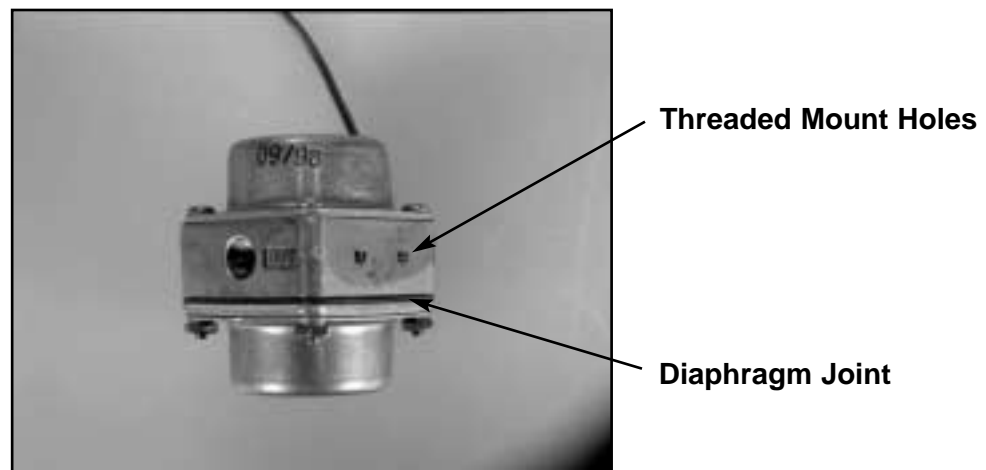

Figure 2
Recent field reports have indicated the possibility of fuel seepage at either the diaphragm joint or threaded mount holes as shown in Figure 2. Within the next 10 hours of operation, inspect the pressure regulator shut off valve for signs of fuel leakage as follows.
- b. Using mineral spirits or JET-A as the test fluid, pressurize the inlet port of the regulator valve to 50 psi for 1 minute minimum with the solenoid energized. Carefully inspect the valve body for signs of fuel leakage giving careful attention to the diaphragm joint and the threaded mount holes as shown in Figure 2. **CAUTION - prior to test, exercise care to wipe valve body and fittings free of any residual fluid that may have contacted external surfaces of the valve during test setup.** Leakage may appear as a wetness or seepage at the diaphragm joint or threaded mount holes. Rotate the valve during pressure test as necessary to fully inspect all external surfaces.
- 5) Visually inspect the valve body for signs of fuel stains, paying careful attention to the diaphragm joint and the threaded mounting holes located in sides of the valve body (see Figure 2). Fuel leakage in those applications using AVGAS may appear as a greenish blue stain or residue in the area of the diaphragm joint or threaded mount hole. Fuel leakage in those applications using JET-A fuel may appear as a wetness or oily residue at the diaphragm joint or threaded mount hole. Utilize supplemental lighting if needed to facilitate visual inspection. Visual inspection must include all four sides of the regulator valve body. If signs of fuel leakage are found replace the valve using a new valve of appropriate part number with a manufacture date code of 02/02 or later. Record valve replacement and Service Bulletin compliance in the logbook.